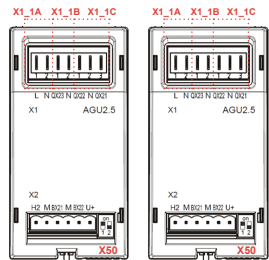

Fig. 1
1. 2x AGU2.550 - Shown in Fig 1.